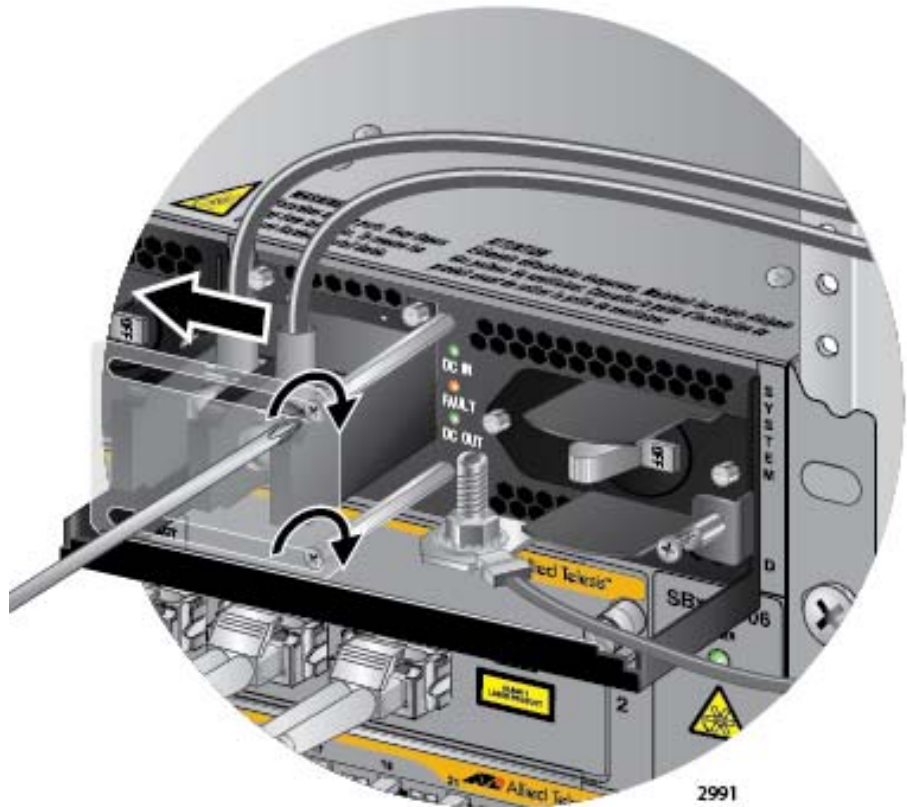

Figure 148. Closing the Plastic Cover over the Terminal Connectors
8. Slide the plastic cover to the left and lightly tighten the two screws with a #1 Phillips-head screwdriver to secure the cover. See Figure 148 on page 225. You might need to slightly lift the locking handle to access the bottom screw.
6. Slide the plastic cover to the left and lightly tighten the two screws with a #1 Phillips-head screwdriver to secure the cover. See Figure 148 on page 225. You might need to slightly lift the locking handle to access the bottom screw.